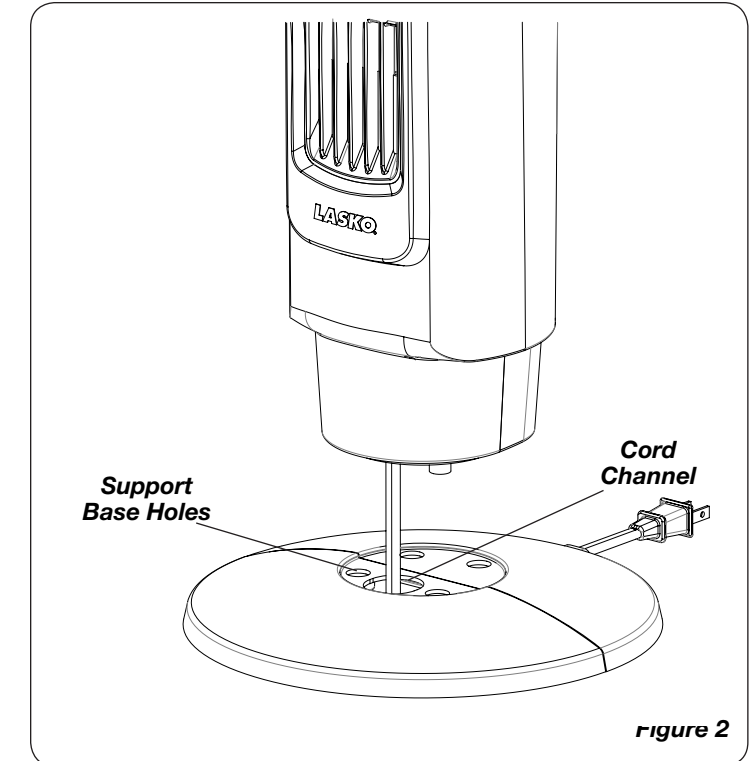

figure 2
3. Pass the Power Supply Cord through the Cord Chanel in the center of the Base (Figure 2).